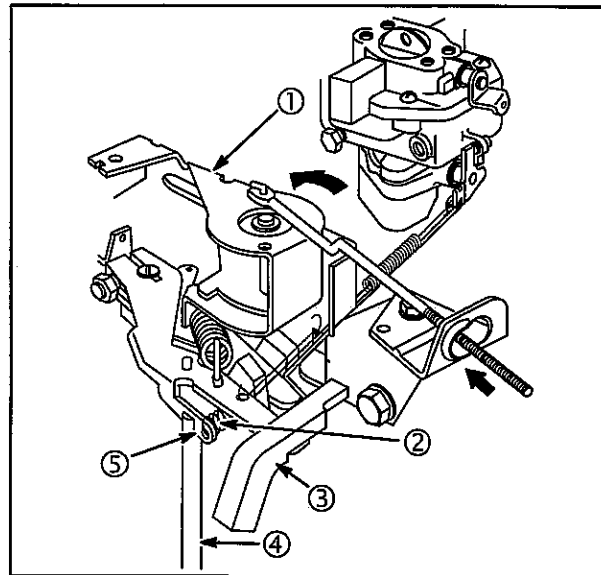

Fig. 39
3. Rotate governor control swivel (1) counterclockwise to end of travel, **Fig. 39**.
4. Install Adjustment Gauge #19385 (3), with notch over end of governor lever and flat end of tool against governor control bracket as shown in **Fig. 39**.
5. Hold gauge in position and bend tab (5) with Tang Bender #19352 (4) so that all slack is removed from secondary governor spring (2) between its two anchor points, **Fig. 39**. **DO NOT STRETCH SPRING.**